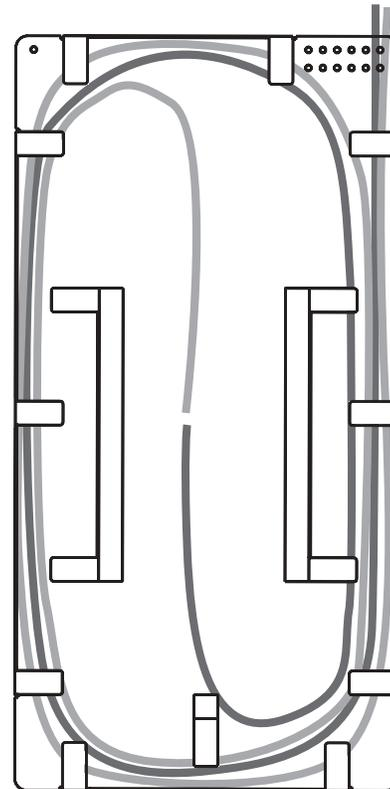

Figure 19
9.2 As an optional method, splice organizers can be secured to the center of the splice cassette. This eliminates the need for additional splice trays. If using this method, route fibers as shown in Figure 19.